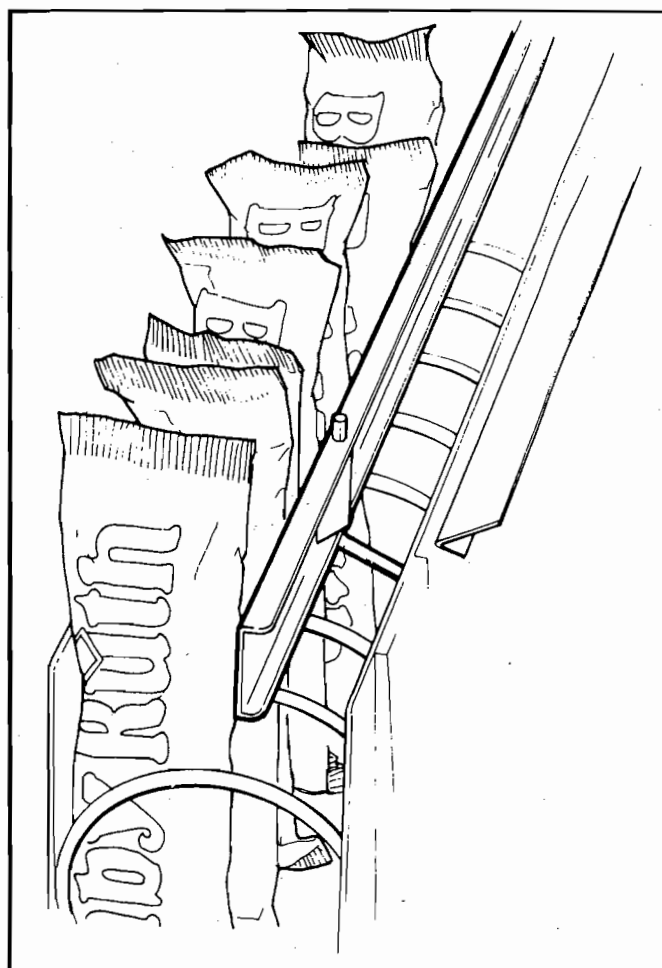

Figure 6. 8 SELECTION SHELF PRODUCT SPACER POSITIONED TO HOLD CANDY UPRIGHT.
7. **PRODUCT SPACERS—8 SELECTION SHELF:** The 8-selection shelves are equipped with a product spacer (see Figure 6) that can be pivoted from the right side of each product space. These spacers should be pivoted out to hold the product upright, but not tight against the product. Leave about $\frac{1}{8}$ " clearance between the spacer and the product.